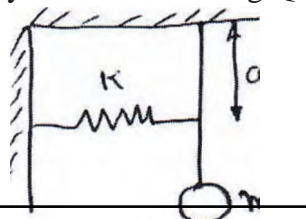

Fig Q8(b)
- b. Find the natural frequency of the system shown in Fig.Q8(b).